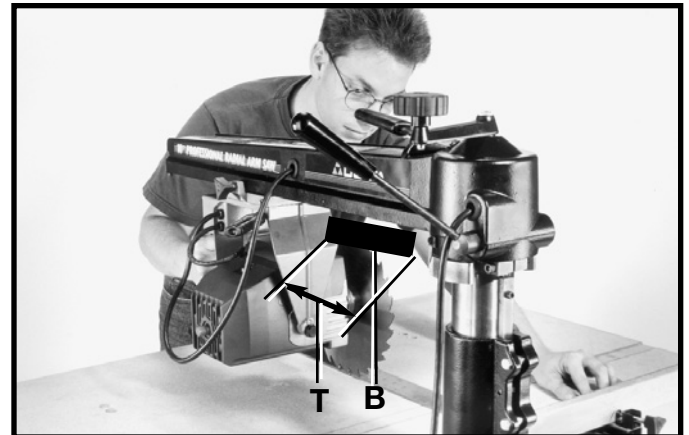

Fig. 53
A block of wood placed at (B) Fig. 53 clamped to the track arm with a small “C” clamp will prevent unnecessary travel (T) of the cutting-head on the track arm. This is especially useful when performing repetitive operations. Clamp the block of wood to the right side of the track arm at a position which will stop the cutting-head travel as soon as the saw blade cuts through the workpiece.